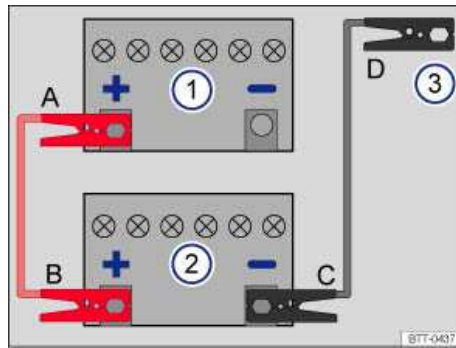

Fig. 211 Diagram for attaching the jumper cables: Dead battery 1 and booster battery 2.
⇒ fig. 211 A – B – C – D.
3. Attach one end of the *red* jumper cable to the **positive terminal (+)** of the dead battery (1) ⇒ .
4. Attach the other end of the *red* jumper cable to the **positive terminal (+)** of the good battery (booster battery) (2).
5. Attach one end of the *black* jumper cable to the **negative terminal (-)** of the booster battery: Battery (2) ⇒ fig. 211.
6. Attach the other end of the *black* jumper cable (3) to a **bare metal part of the vehicle with the dead battery**. This part should be connected directly to the engine block. You may also attach the cable to the engine block itself. Attach the clamp to a point that is as far away as possible from the dead battery (1) ⇒ .